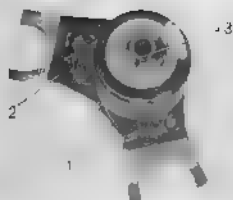

Fig. 3.102 "R" mark on the RH gear shift fork
When assembling the gear shift forks, caution not to reverse the LH and the RH forks. The RH gear shift fork is marked "R" ①. After the assembly, check for operation. (Fig. 3.102)